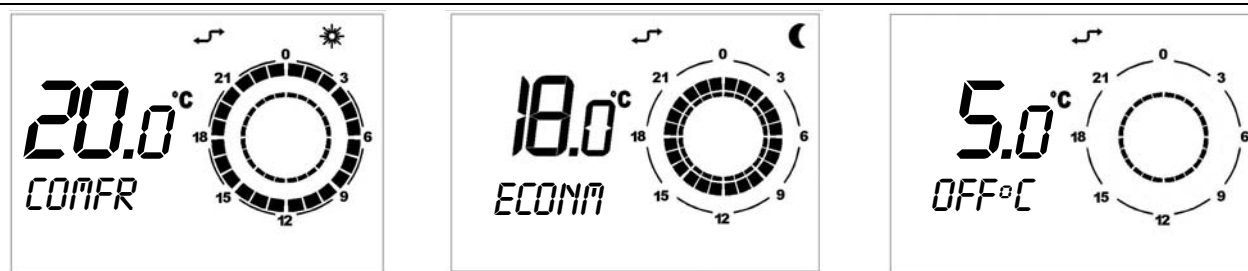

Figure 4 – Comfort, economy and anti-freezing temperatures
3. In the lower left-hand corner of the display, **COMFR** will appear for the programming of the comfort temperature, **ECONM** will appear for the programming of the economy temperature, and **OFF°C** will appear for programming of the freeze protection temperature (see Figure 4).